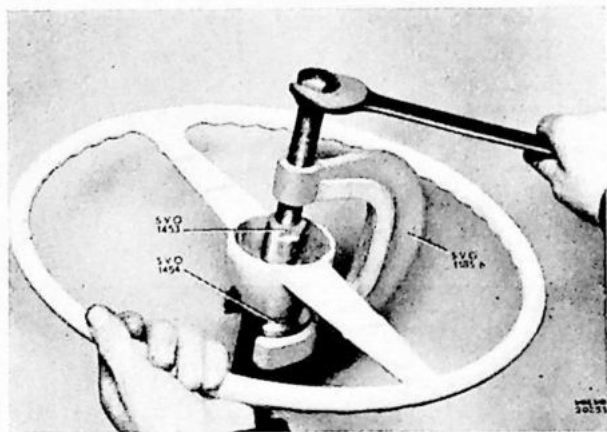
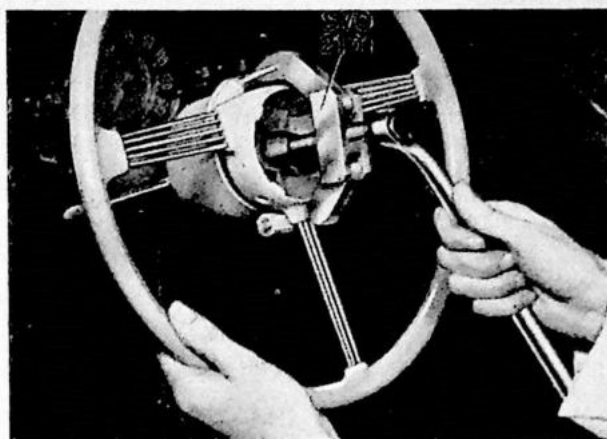

Fig. 21. Removing steering wheel.
Fig. 22. Removing steering wheel.
4. Draw off steering wheel. Use puller SVO 1185 B and spacer SVO 1453 and clamp SVO 1454. See fig. 21.
4. Pull off steering wheel. Note: Indicator switch lever is to lie in neutral position to prevent damage to internal parts. Use standard puller, steering wheel clamp SVO 2102. See fig. 22.
4. Pull out the horn cable together with the bushing, spring and casing. Loosen the steering wheel nut (after loosening the lock washer on late production). Pull off the steering wheel with puller SVO 1185 B, spacer SVO 1453 and clamp SVO 1454 (fig. 21) for the model without direction indicator housing. Use puller SVO 2101 (fig. 22) for the model with a direction indicator housing. Loosen the screws and remove the direction indicator housing where this is fitted.